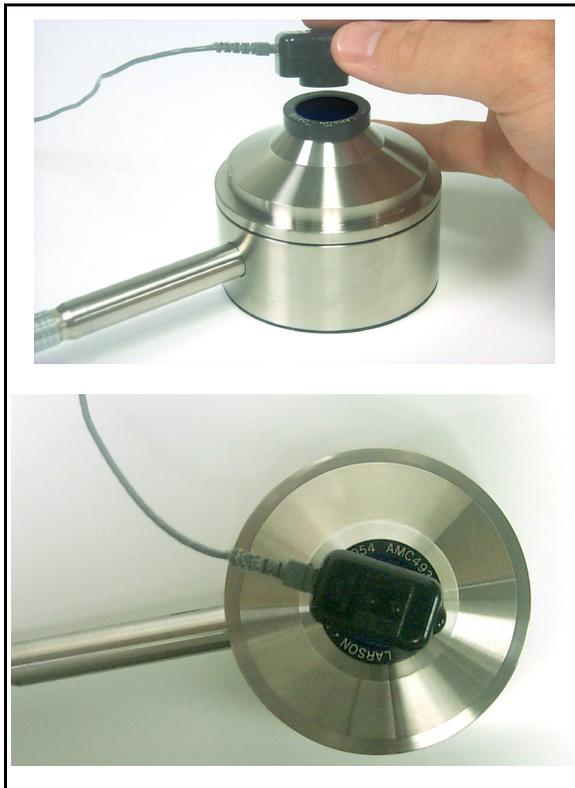

FIGURE 5-41 Vibrator being placed and centered on mastoid
Step 5 Center the test vibrator contact surface on the circular resilient surface of the AMC493B. Ensure that there is no contact between the vibrator body and the AMC493B metallic rim (FIGURE 5-41).